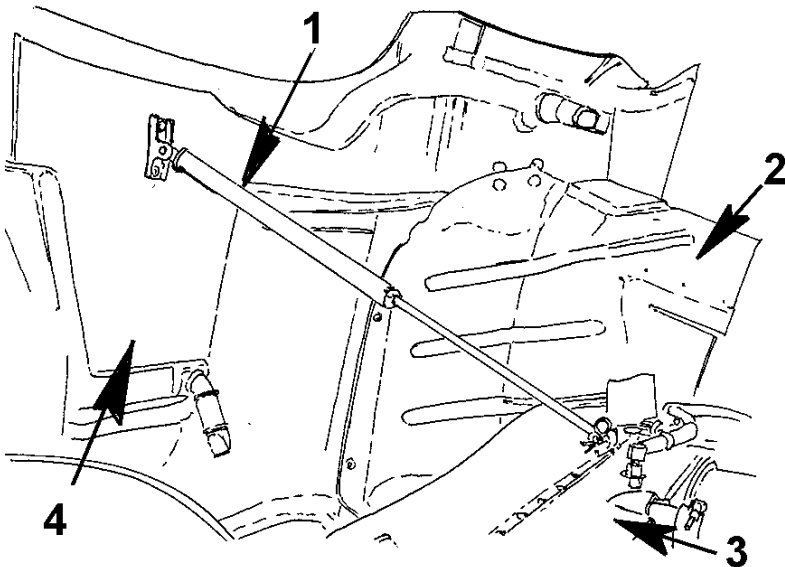

Figure 15 8600 Series Tilt Assist Assembly
2. Release hood latches on each side of the hood and tilt the hood assembly to a 45 degree angle. Support the tilted hood with a floor stand to relieve tension on the tilt assist cylinder assembly (Figure 15, Item 1).